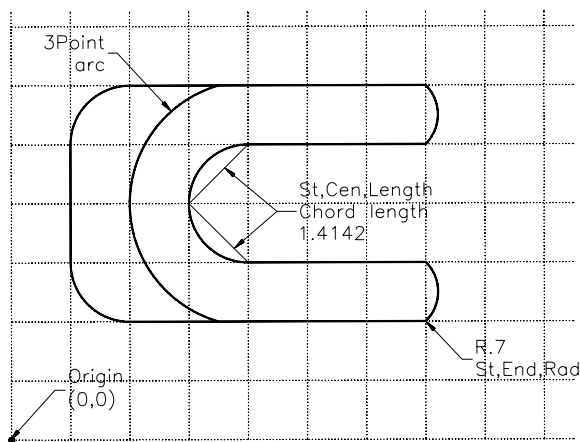

Figure 3-22 Drawing for Exercise 5(b)
- Make the drawing shown in Figure 3-22. The distance between the dotted lines is 1.0 units. Create the radii as indicated in the drawing by using the **ARC** command options.